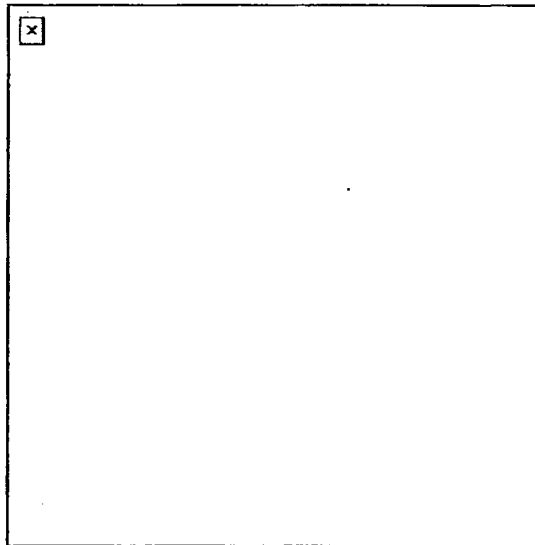

Figure 18. Insertion of the alignment guide assembly.
- (1) Insert the blocks into the slots with the tang end forward.
- (2) Push against the block and slide it toward the rear until the block locks into place.
- d. Insert the alignment guide assembly (Figure 18).